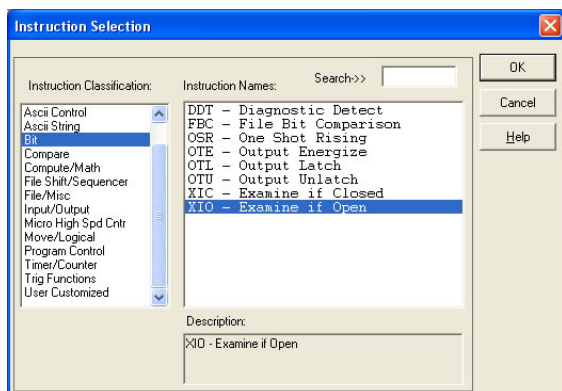

Figure 102: XIO Instruction Selection
- Select the “XIO” instruction from the “Bit” classification, then click OK. Refer to Figure 102.